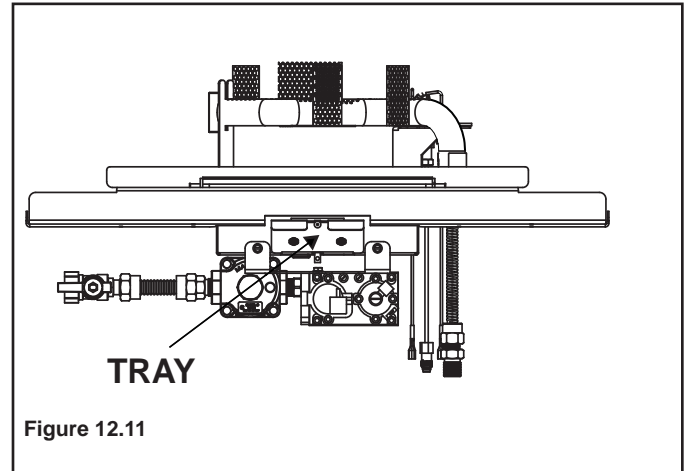

Figure 12.11
- Pull out the tray that houses the light bulb (see Figure 12.11).